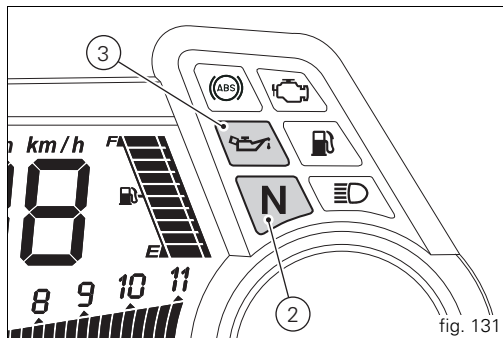

fig. 131
The instrument panel will perform the initialisation and will control the onboard systems, turning on all lights in sequence, from the bottom to the top, for a few seconds. After this control, only the green light (2, fig. 131) and the red light  (3) must remain on.